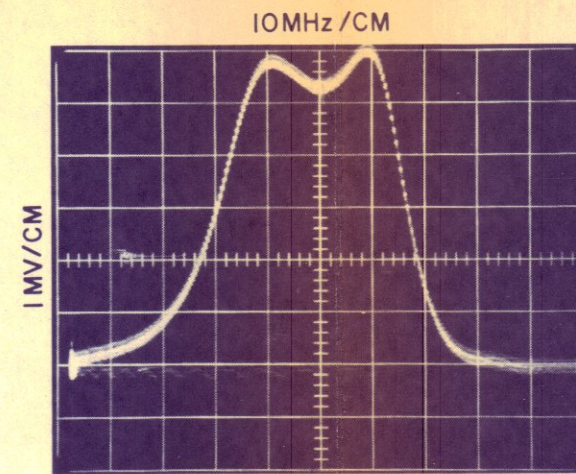
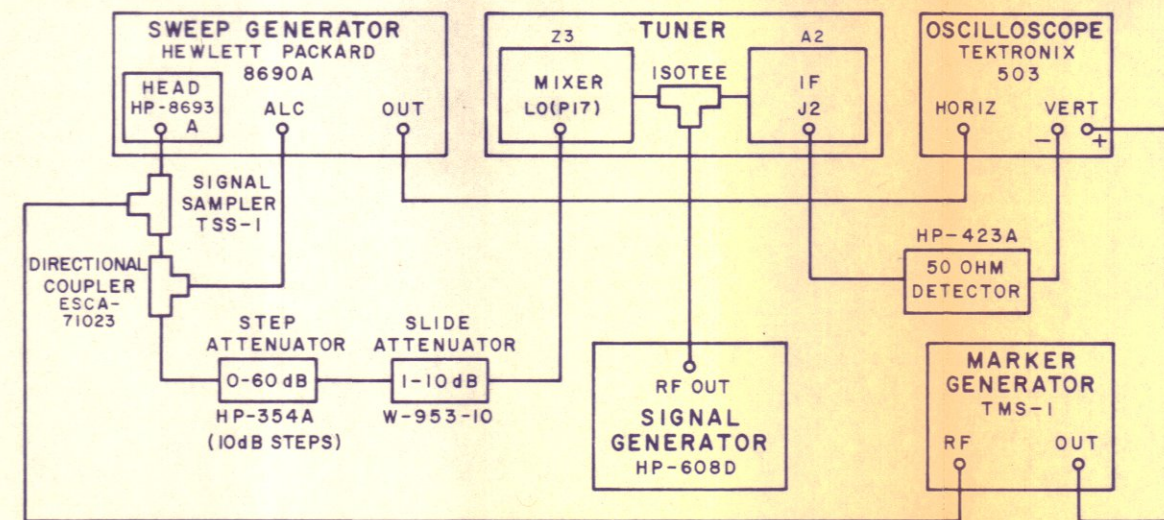
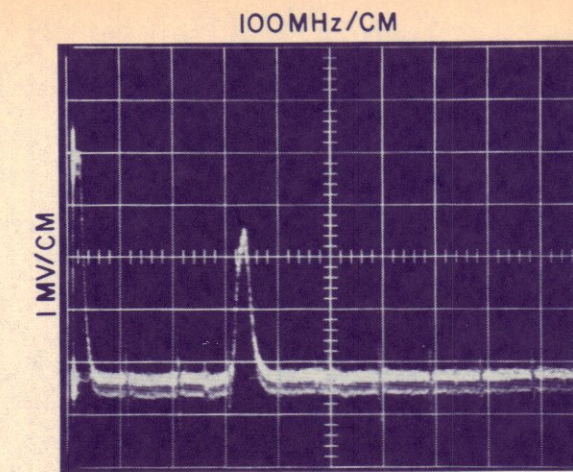

Figure 4-1c. Typical Response, IF Preamplifier
Figure 4-1b. Equipment Connections, Mixer, LO, IF Preamplifier (YIG Filter Bypassed)
Figure 4-1f. Typical Band Response, VFO to Tape Dial Tracking
- (1) Connect the equipment as shown in Figure 4-1b, page 4-12.
- (2) Set the sweep generator controls for a $4100 \text{ MHz} \pm 100 \text{ MHz}$ sweep. Tune the TH-480B to 4100 MHz and adjust the oscilloscope and microwave attenuator controls to obtain a suitable display.
- (3) Set the HP-608 for 160 MHz markers and the TMS-1 for 10 MHz markers.
- (4) Adjust A2C11, A2C9, A2C16, and A2C22 for a maximum amplitude symmetrical response centered about the 160 MHz marker. A typical response is shown in Figure 4-1c, page 4-12.
- (5) The bandwidth should be a minimum of 22 MHz and a maximum of 25 MHz at the 3 dB points.
- (6) Tune the sweep generator and TH-480B simultaneously throughout the band and note the response variation. If excessive tilt occurs anywhere in the 4-8 GHz band, a slight compromise in the settings of step (4) adjustments should be used to obtain the flattest overall response.
- (2) Tune the TH-480B to 4000 MHz and carefully loosen the set-screws in the flexible coupling which connects the VFO to the gear train.
- (3) Adjust the sweep generator controls to sweep from 4 to 8GHz and the oscilloscope and attenuators to display a response similar to Figure 4-1f. Set the TMS-1 for 100 MHz markers.
- (4) Identify the response that is lowest in frequency. Without moving the tape dial from 4000 MHz, carefully rotate the VFO tuning shaft and move the response to the 100 MHz marker representing 4000 MHz.
- (5) Set the sweep generator for a narrow sweep mode of 4000 MHz \pm 100 MHz.
- (6) As in step (4), carefully center the response about the 4000 MHz marker. Figure 4-1c shows a typical response. Tighten the flexible coupling setscrews.
- (7) Adjust the sweep generator controls for a 8000 MHz \pm 100 MHz sweep. Note the relationships between the displayed response and the 8000 MHz marker. If the response is not centered, loosen the setscrews in the flexible coupling and carefully rotate the VFO shaft to remove one half of the error. Tighten the setscrews. The tape dial to frequency error should be no more than 1%, i. e., \pm 80 MHz at 8000 MHz and \pm 40 MHz at 4000 MHz. Errors in excess of this indicate a faulty VFO. With the end frequencies set correctly, the VFO to tape dial tracking should be satisfactory.
- (8) Verify the correct VFO to tape dial tracking at 500 MHz intervals throughout the band by identifying the correct marker, adjusting the sweep generator and TH-480B tuning to the correct frequencies, and noting the response to frequency marker relationships.